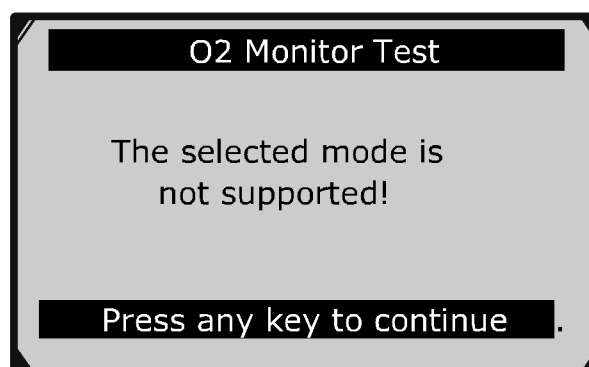

Figure 6.24
- If the vehicle does not support the mode, an advisory message will be displayed on the screen. (Figure 6.24)